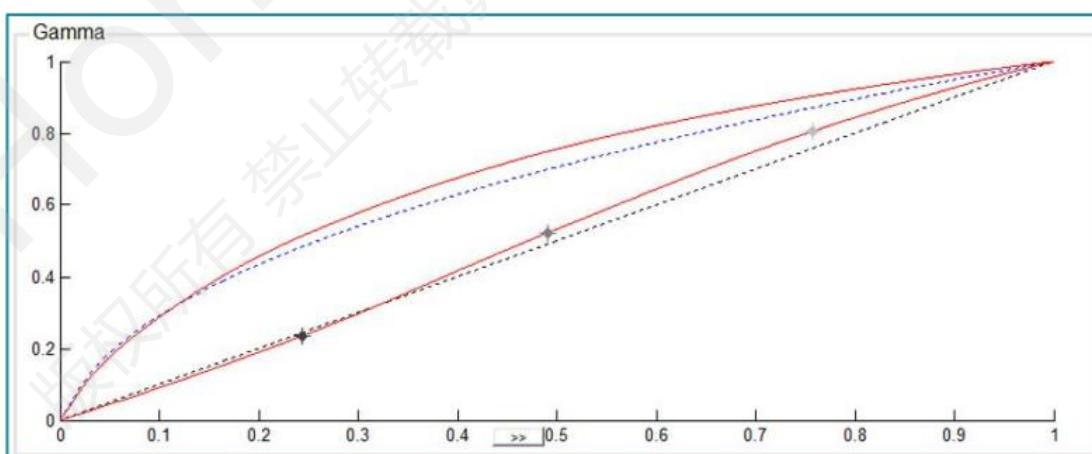

Figure 3.2-4 Tuned gamma and tone curve.
7. Once gamma and tone match the specification/criteria, the parameter values can be saved using the save button. Figure 3.2-4 depicts one case of a tuned gamma and tone curve. Note that the shape of the curve may vary between systems.